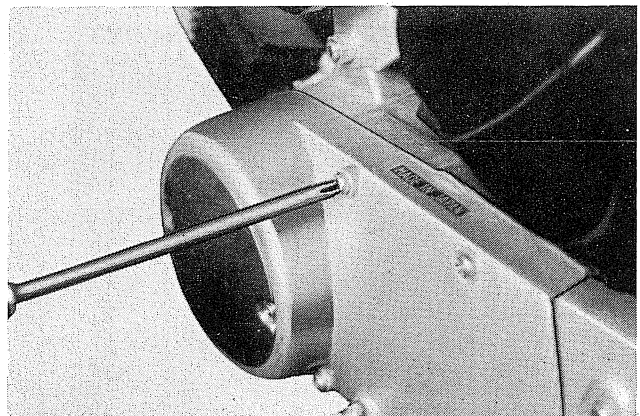

Fig. 3-1-5
4. Remove the crankcase cover (L). (Fig. 3-1-5)